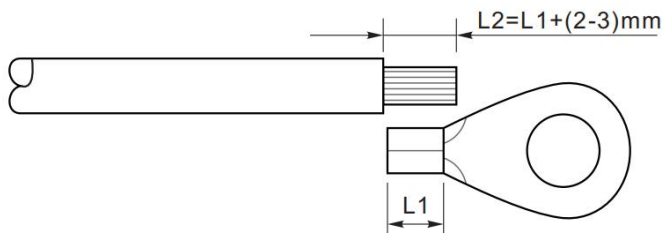

Figure 5-2 Grounding connection instruction (1)
Step 1: Remove the insulation layer with an appropriate length using a wire stripper shown as figure 5-2.